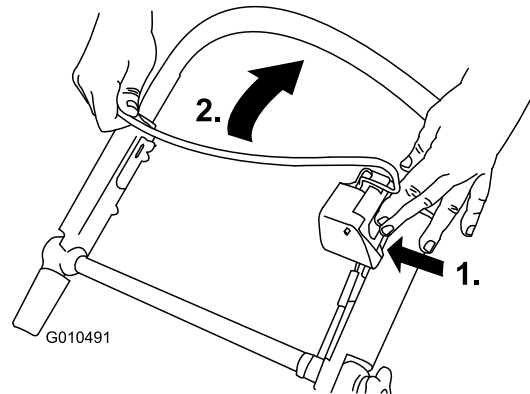

Figure 25
1. Push the blade control button and pull the blade control bar to the handle (Figure 25).